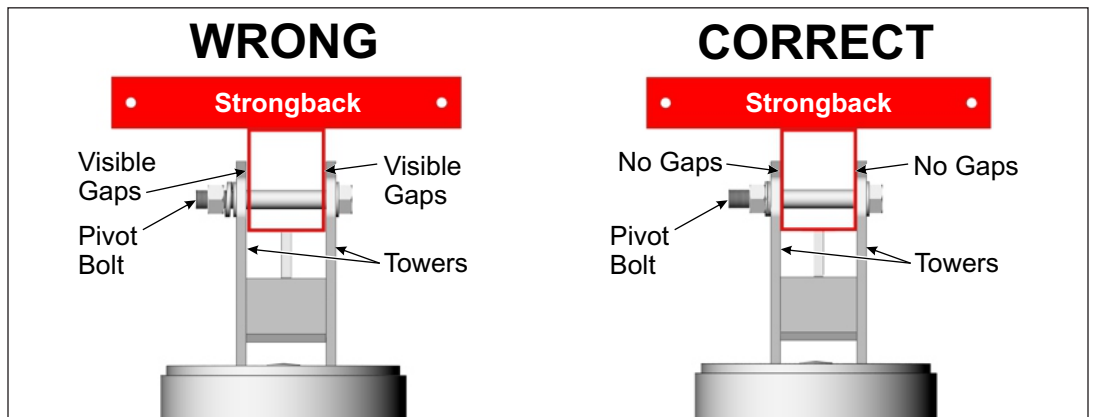

Figure 2-4: Tighten and Torque the Pivot Bolt
G. Return and tighten the Pivot Bolt, The Pivot Bolt cannot be left loose - the Mounting Sleeve Vertical Towers must be firmly clamped to the sides of the Strongback eliminating any gaps between the Vertical Towers and the Strongback. **Torque to 330-350 ft.-lbs.** (See Figure 2-4)